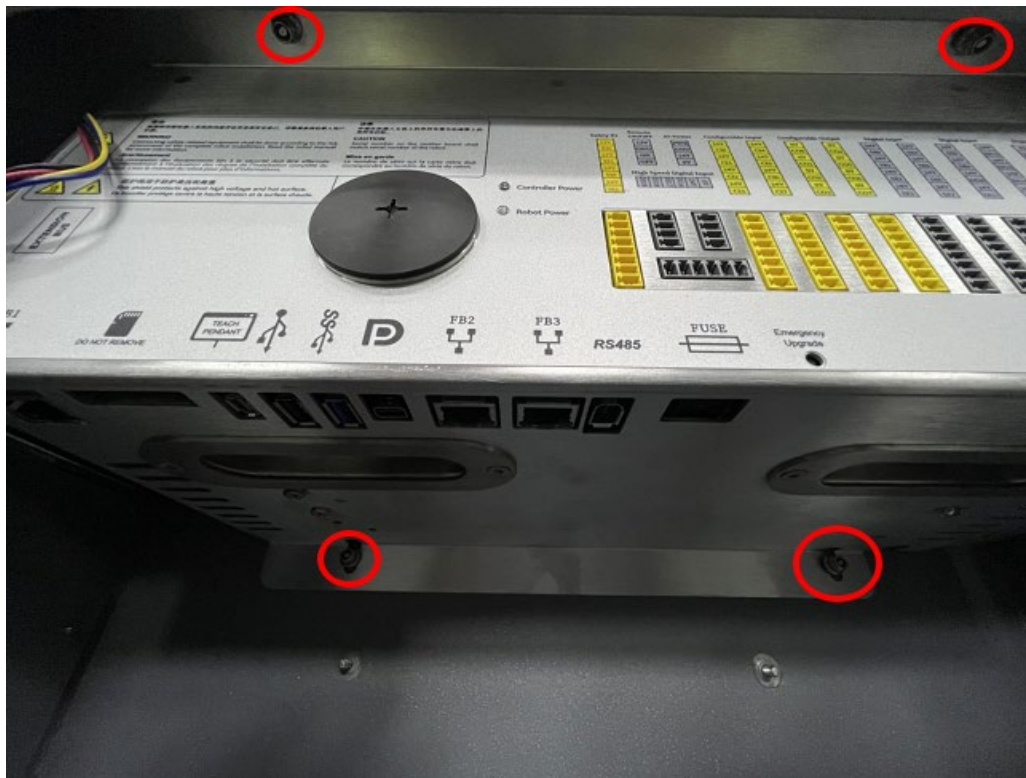

Figure 3-23 Controller hex flange side nylon anti-loosen nut position
- Turn off the controller and disconnect the power cord, open the controller cabinet, lay the controller flat, and remove the 4 hexagonal flange nylon anti-loosen nuts, as shown in Figure 3-23: